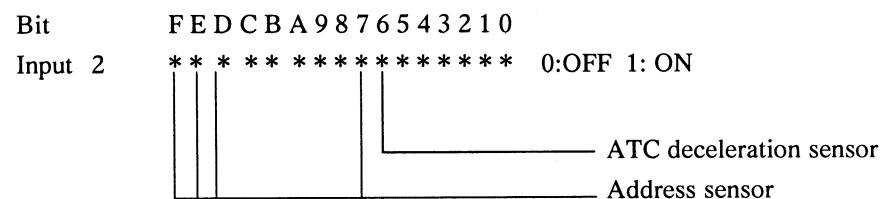

Fig.2 Input/output screen (MAIN 2) Input 2
- (5) After the measure 1, check that the values 7, D ,E, F bits of input 2 (Refer to the fig. 2.) on the <I/O> screen (MAIN2) correspond to the magazine number which is currently indexed, as below. If not. move the magazine for correspondence. (Refer to the Maintenance manual)